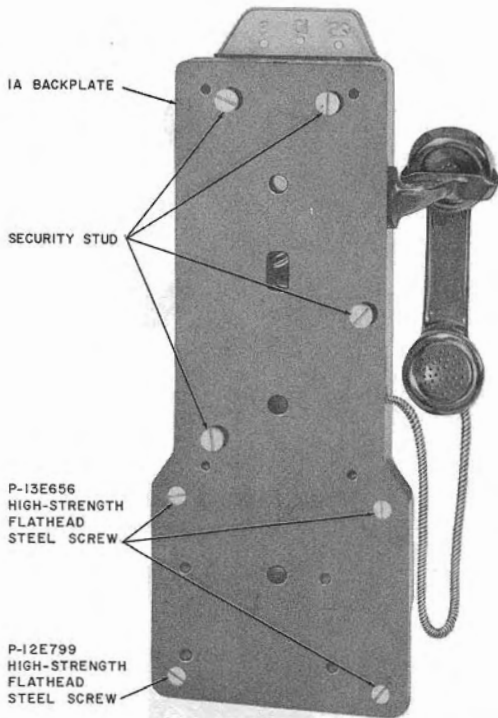

Fig. 14—Rear View of Coin Collector with IA Backplate Attached
2.24 The 1A backplate is provided with clearance holes for security studs and mounting screws. It is fastened to the coin collector backplate by replacing the four lower housing assembly screws with one P-12E799 and three P-13E656 high-strength flathead steel screws (Fig. 14). Replacement screws must be ordered separately.